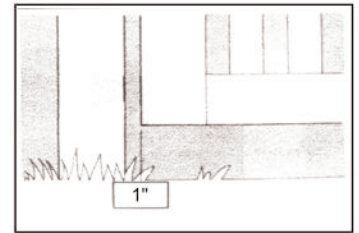

Figure 2
**NOTE:** For a gate, you must leave an opening 41" to accommodate the hinges and latches. (1" each side of the gate). (See fig. 2). Attach gate latches and hinges to posts before filling the posts.